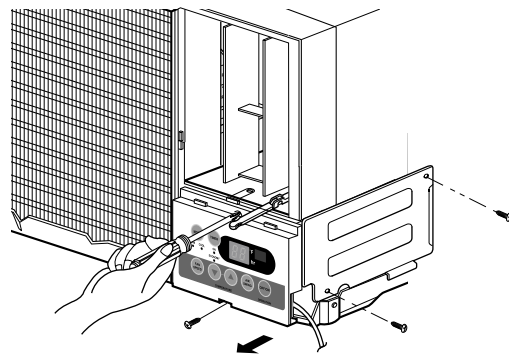

Figure 3
8. Re-install the components by referring to the removal procedure, above. (See Figure 3)